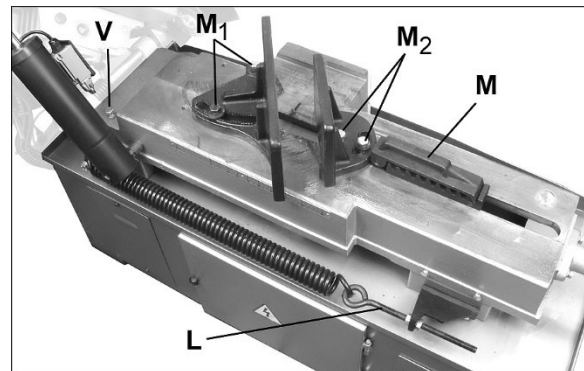

Figure 7-6: vise adjustments and limit switch
4. Adjust tension by loosening one nut on the C-bolt (L, Figure 7-6) and tightening the other. Tighten nut and retest the weight.
2. Lift rack block (M, Figure 7-6) and manually slide floating vise jaw in general proximity to workpiece. Let block fall to re-engage rack.
1. Loosen both bolts on right/fixed jaw (M₁, Figure 7-6) and swing jaw to desired angle, according to scale at rear of bed. For more precise angles, use a protractor. Tighten bolts.
Adjustment is needed if blade continues to run *after* completion of cut, or blade shuts off *before* completion of cut. Loosen jam nut and turn stop screw (V, Figure 7-6) as required. Retighten jam nut.